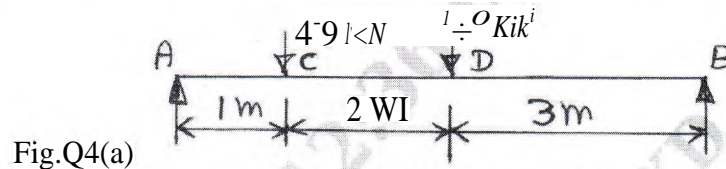

Fig.Q4(a)
- b. Calculate the maximum deflection and slope in the beam loaded as shown in Fig.Q4(b) by conjugate beam method.